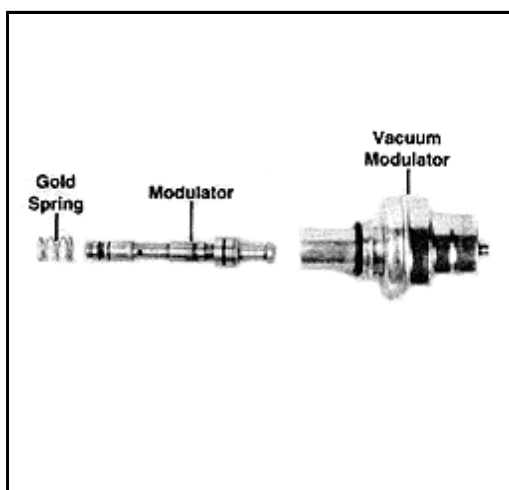

Figure 4
STEP 6 Vacuum Modulator: No modification is necessary for this application. Part throttle shift points can be lowered 5-6 mph by installing the gold spring in back of the modulator valve. Remove modulator and valve. (See Figure 4) Insert spring on end of valve and install valve and modulator as removed. Reconnect vacuum line. Adjustable modulator should be used with this valve body kit. You can purchase this from TCI® or any GM dealer.